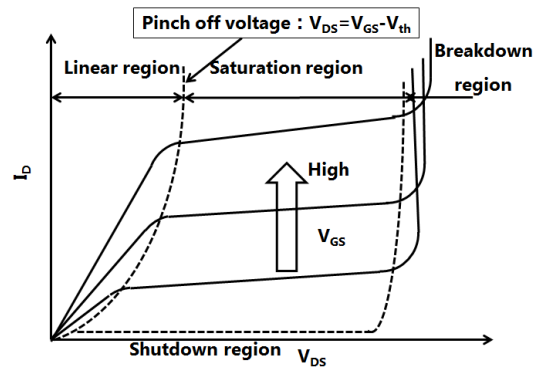

Figure 1.1 Operating Regions of a MOSFET
- (1) The on-state resistance of MOSFETs is low when they operate in the linear region (i.e., at a voltage lower than pinch-off voltage). Therefore, for switching applications, you can reduce the on-state resistance by using MOSFETs in the low V_{DS} region (Figure 1.1). This helps reduce power loss. Note that the amount of current that MOSFETs can handle is limited by the value of V_{GS} .
- (2) MOSFETs turn on when the gate-source voltage